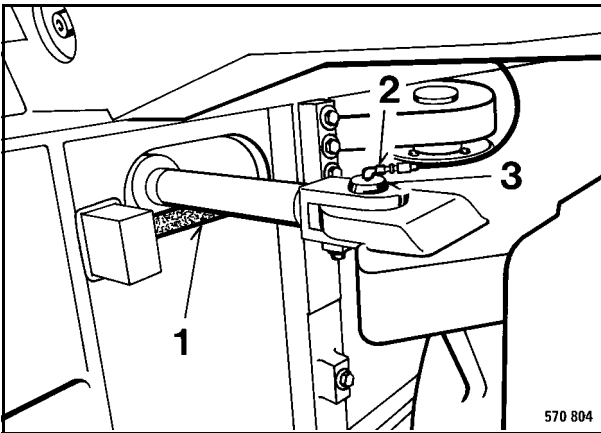

Fig. 11
18. Place a plastic pad 1 (Fig. 11) under the steering cylinder rod.
19. Disconnect the lubrication hoses from connections (2).
20. Remove the bars and knock out the bolts (3).